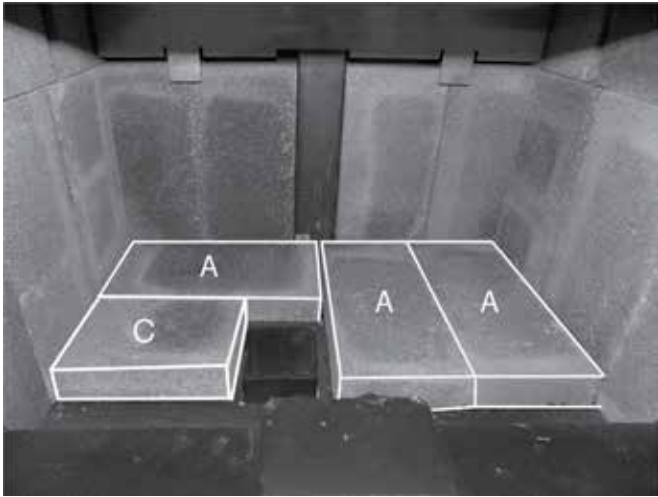

Figure 17: Floor brick in place.
- Place two "A" firebricks on the firebox floor as shown. Place a third "A" firebrick against the rear wall as shown in (Figure 17).
- Place the "C" firebrick so that it sits beside the ash dump, against the lefthand side wall and the "A" firebrick located directly behind the ash dump (Figure 17).